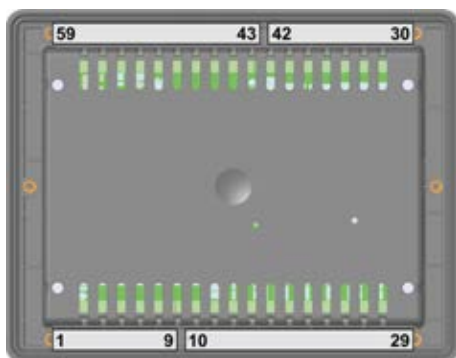

Fig. 17: Plastic housing
- Plastic housing - shown in Fig. 17